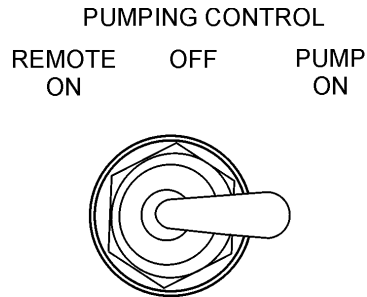

Figure 19. Pump Switch On
6. To begin pumping concrete. Place the pumping control switch (Figure 19) in the ON position.